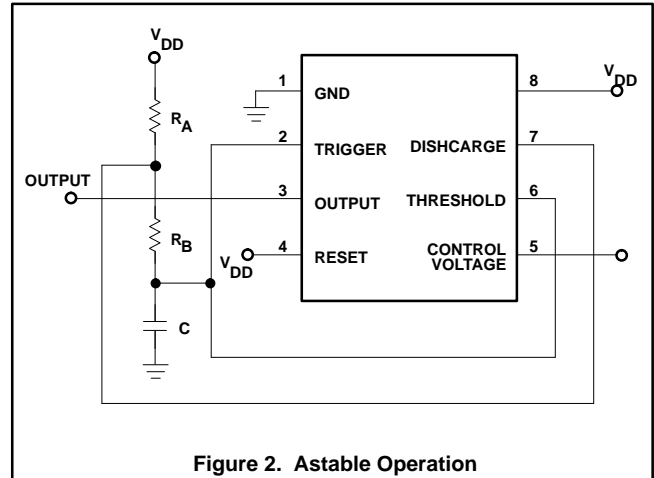

Figure 2. Astable Operation
- Astable timing is calculated using the following equation:  $f = \frac{1.38}{(R_A + 2R_B)C}$ . The components are defined in Figure 2.
Although the supply current consumed by the ICM7555 device is very low, the total system supply can be high unless the timing components are high impedance. Therefore, high values for R and low values for C in Figures 2 and 3 are recommended.
If the circuit is connected as shown in Figure 2, it will trigger itself and free run as a multivibrator. The external capacitor charges through  $R_A$  and  $R_B$  and discharges through  $R_B$  only. Thus, the duty cycle (D) may be precisely set by the ratio of these two resistors. In this mode of operation, the capacitor charges and discharges between  $1/3 V_{DD}$  and  $2/3 V_{DD}$ . Since the charge rate and the threshold levels are directly proportional to the supply voltage, the frequency of oscillation is independent of the supply voltage.